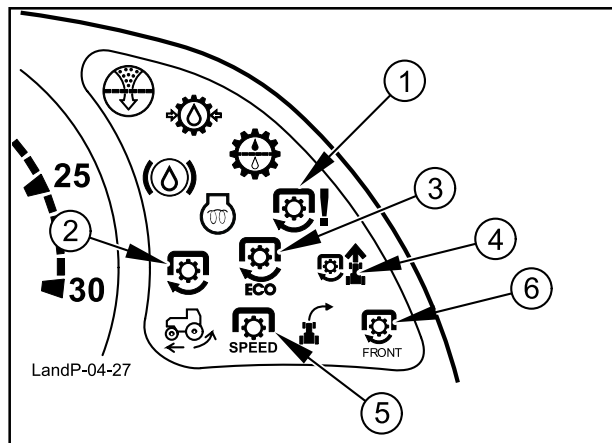

Fig. 4-32
An indicator light on the instrument panel comes on when the PTO is engaged (2 - Fig.4-32).
Fully depress the ON/OFF switch (1). The PTO indicator light on the instrument panel (2 - Fig.4-32) goes off.
Pull up the locking collar (2) of the ON/OFF button, then pull the button (1) to the ON position. Now the button will remain on the ON position, while the PTO indicator light on the instrument panel (2 - Fig.4-32) lights up.
The indicator light (1 - Fig. 4-32) on the dashboard comes on if the max. allowed rated PTO speed is exceeded.